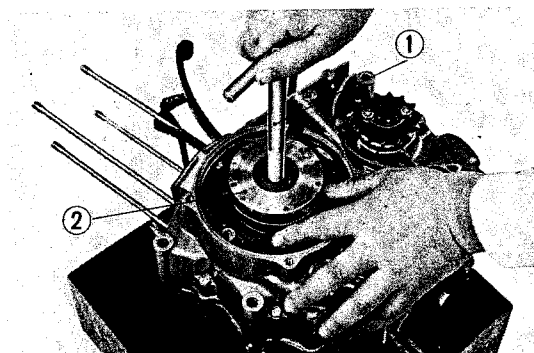

Fig. 77 **Rotor removal**
- 2) Remove generator mounting bolts and remove the rotor assembly. (Fig. 77)